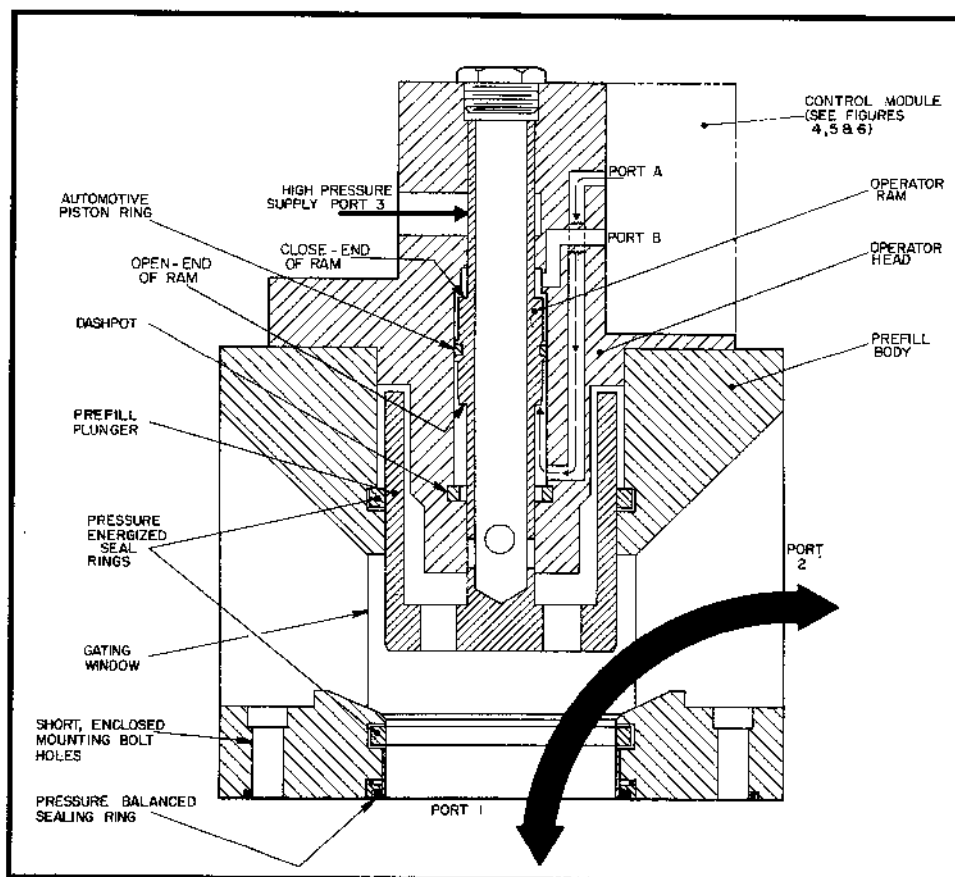

Figure 2. Diagram of Oilgear "VSA" Cylinder Prefill Unit in OPEN position (508737D).
1. Cylinder Traverse Advance. See Figure 2. Pressure at control Port "A" retracts the operator ram with the prefill plunger. Port 3 is blocked by the hollow operator ram. Tank Port 2 is connected (without restriction) to cylinder Port 1 allowing gravity prefilling to the connected cylinder.
3. Cylinder Traverse Return. See Figure 2. Following decompression to 250 psi (17,2 bar) or less [Port 3 can be used], pressure at Control Port "A" will retract the operator ram, block High Pressure Port 3 and allow unrestricted exhaust from Cylinder Port 1 to Tank Port 2.